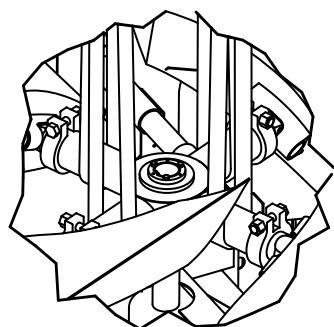

Figure 30. Bushing Bolts
7. Gradually tighten the bushing bolts in several passes to evenly seat the tapered bushing into the hub flange, and lock the bushing to the shaft (**Figure 30**). Refer to **Table 9** which lists the prescribed torques for the bushing bolts.